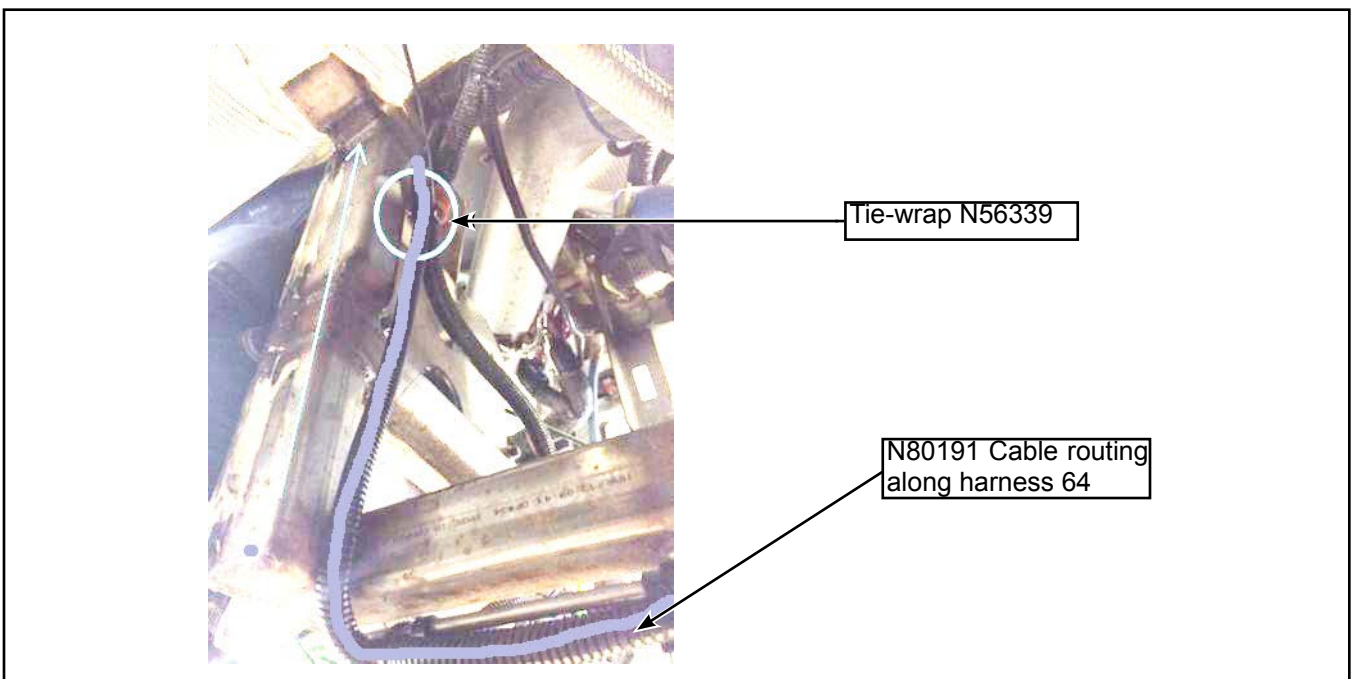

Figure 8 - Cable Routing Along Harness 64
1.9. Continue cable routing along harness 64 (see Figure 8).